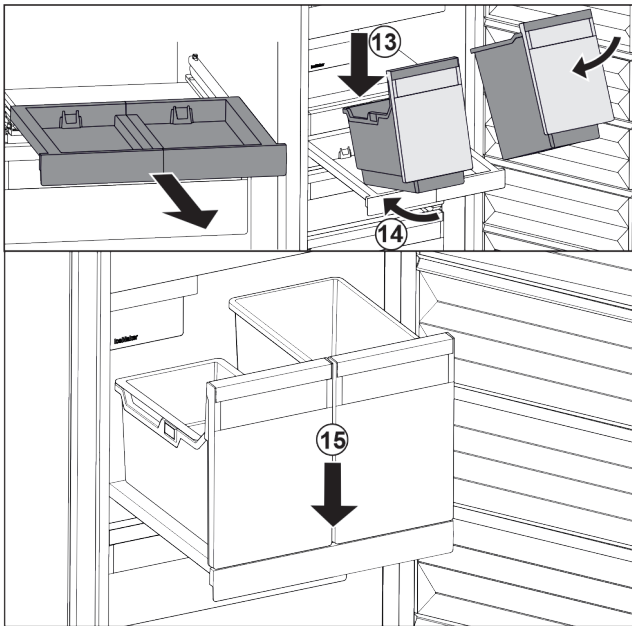

Fig. 38
- ▶ Place the container at an angle on the pull-out board. Fig. 38 (13)
- ▶ Slide the container to the back at an angle. Fig. 38 (14)
- ▶ Place container in the front. Fig. 38 (15)